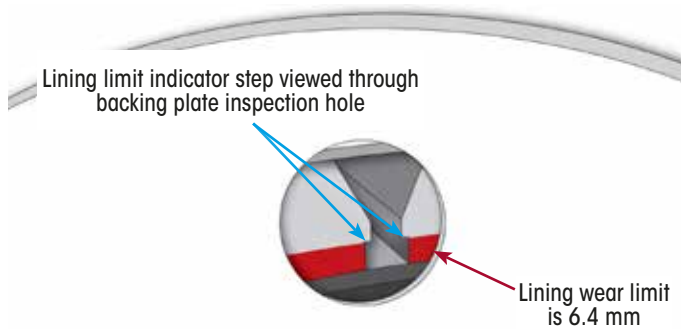

Figure 26: Brake Inspection Through Dust Shield
4. Hendrickson brake linings have an indicator step to show when the linings are due for replacement. Refer Figure 26.